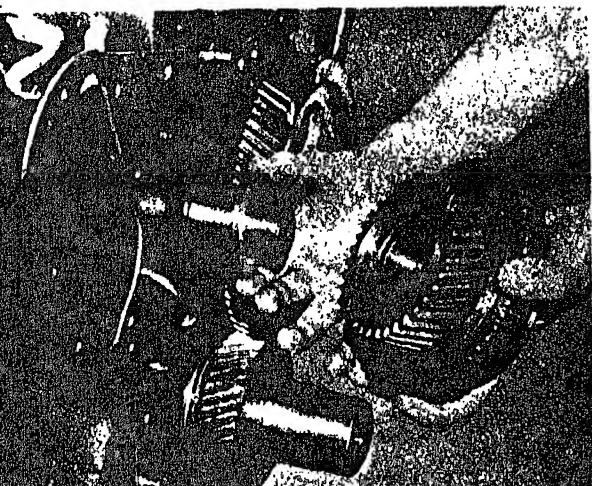

Fig. 14-1-22. Installing thrust washer on idler shaft
1. Install inner thrust washer on idler shaft, Fig. 14-1-22.